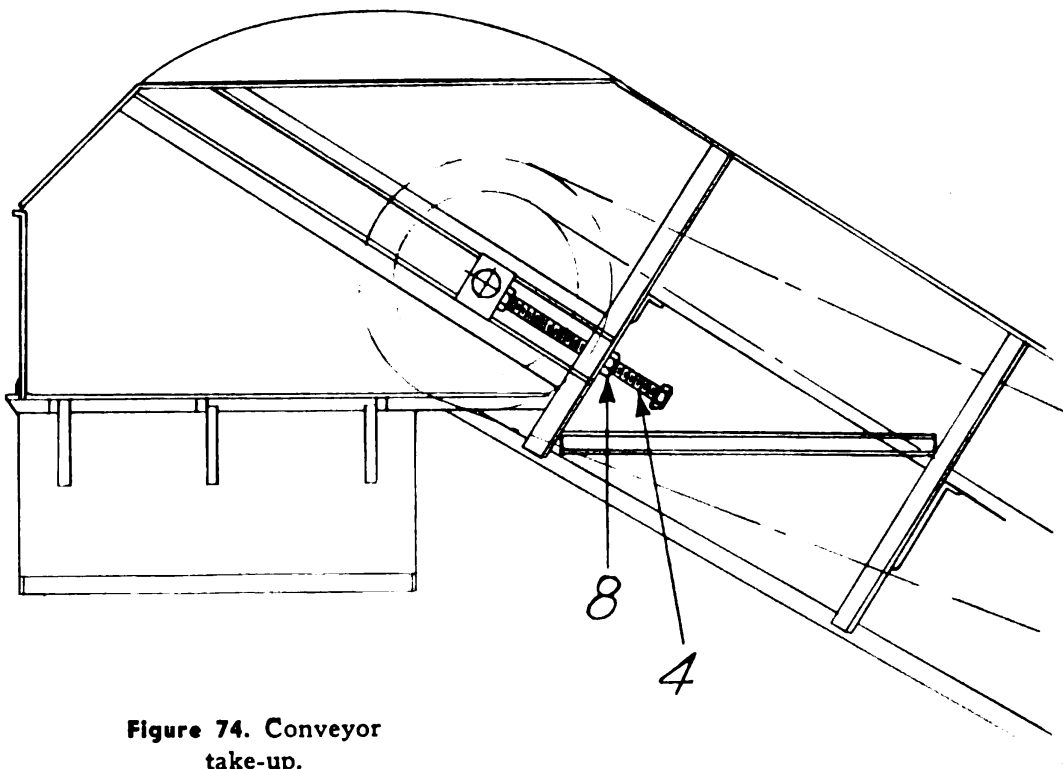

Figure 74. Conveyor take-up.
Take up of these chains is accomplished by means of two adjusting bolts (4) at Figure 74 at the conveyor discharge end. To tighten these chains loosen lock nuts (8) and take up on bolts until chain is in proper adjustment. Then tighten lock nuts. Each bolt should be taken up an equal distance to maintain sprocket and chain alignment. Proper tension may be tested in the following manner. Standing on top of superstructure at about center of conveyor grasp one of the belt flights and lift upward. When chains can be lifted 2 to $2\frac{1}{2}$ " adjustment is proper. **CAUTION:** When the conveyor belt chain is tightened, the conveyor drive chains are also tightened. This should be checked for proper tension after conveyor belt chains are tightened.